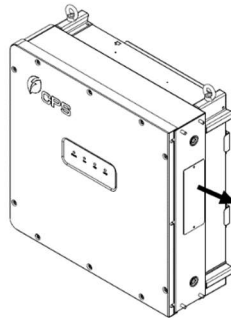
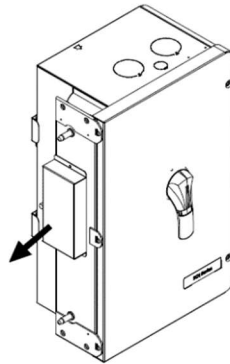

Figure 3-10 Remove the cover of Main Enclosure
Figure 3-14 Wire Box Cover
First remove the cover plate on the right of the main enclosure. Reserve the screws and cover (**Figure 3-10**).
- (4) **Install the wire box.** Tool required: No. 2 Phillips head screwdriver
- A. Remove the connector cover on the left of the wire box, Save the cover and screws (see **Figure 3-14**).
Attach the inverter's connector cover and wire-box connector cover shown in Figure 3-10 and Figure 3-14 to the top of the inverter and wire-box. **(Figure 3-17)**